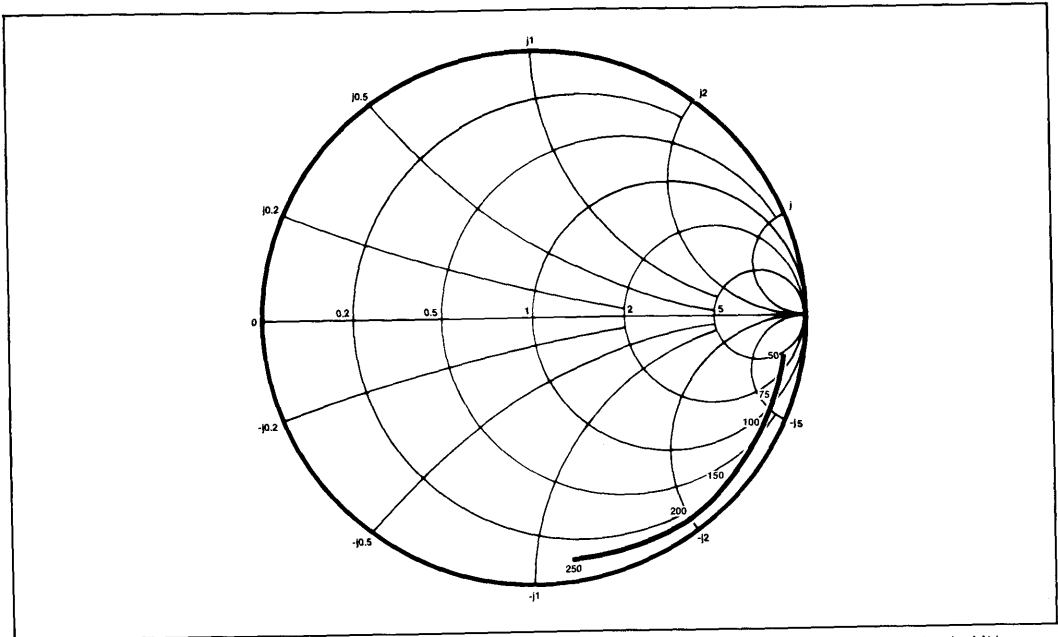

Fig.5 Typical input impedance. Test conditions: supply voltage 5.2V, ambient temperature 25° C, frequencies in MHz, impedances normalised to 50 ohms.
5. Input impedance is a function of frequency. See Fig. 5.